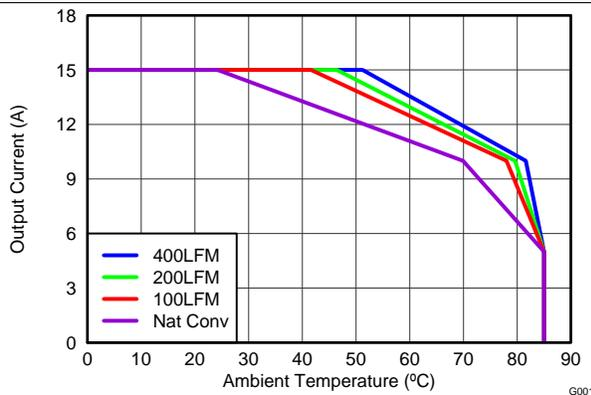
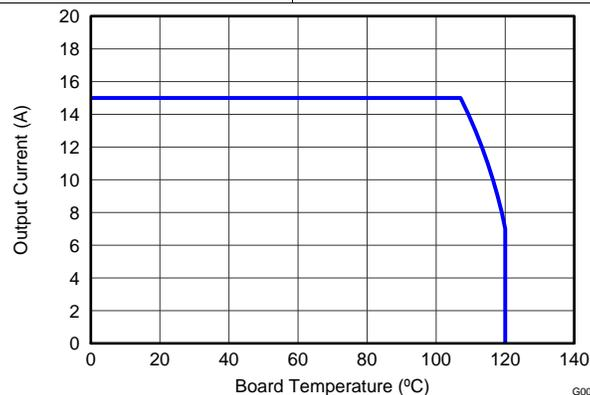

Figure 3. Safe Operating Area – PCB Horizontal Mount
Figure 5. Typical Safe Operating Area
The SOA curves in the CSD87333Q3D data sheet provides guidance on the temperature boundaries within an operating system by incorporating the thermal resistance and system power loss. Figure 3 to Figure 5 outline the temperature and airflow conditions required for a given load current. The area under the curve dictates the safe operating area. All the curves are based on measurements made on a PCB design with dimensions of 4 in (W) × 3.5 in (L) × 0.062 in (T) and 6 copper layers of 1-oz copper thickness.